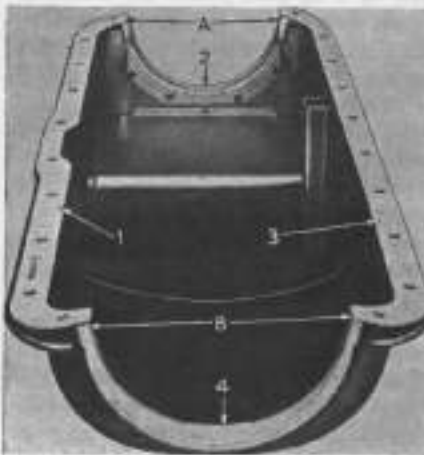

Fig. MH153—Chrysler oil pan gaskets.
71. Oil pan must be removed to clean pump screen. Oil pan end gaskets should extend $\frac{1}{8}$ to $\frac{1}{4}$ inch above oil pan as shown in Fig. MH153. Protruding ends of gaskets must not be trimmed flush with oil pan under any circumstances.